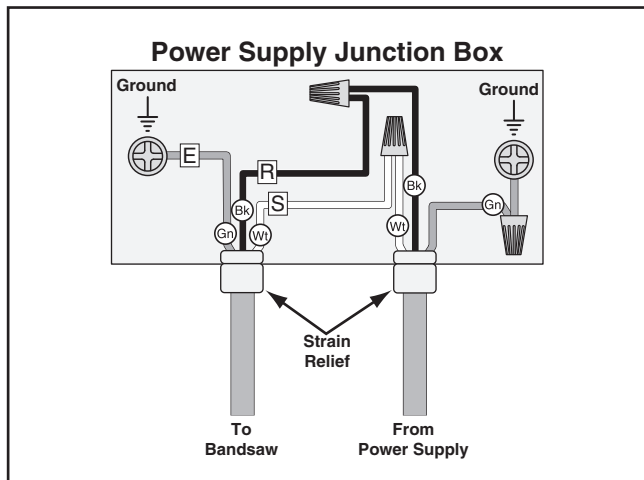

Figure 40. Incoming power cord connections.
5. Connect the incoming ground wire to the ground post, as shown in **Figure 40**.